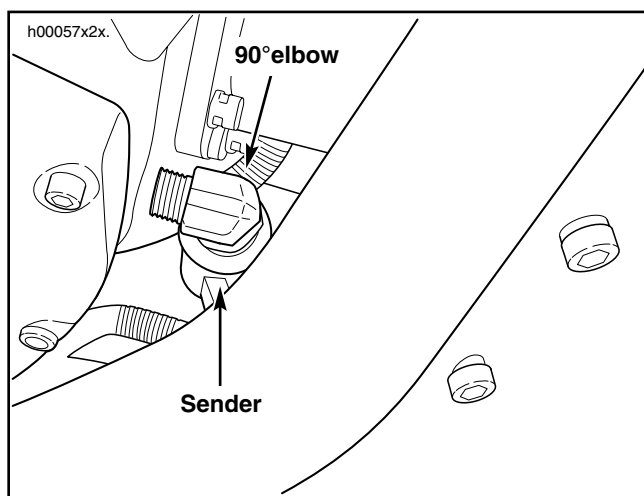

Figure 8. Relocating Oil Pressure Sender
1. See Figure 8. Raise latch on connector and disconnect leads from oil pressure sender.